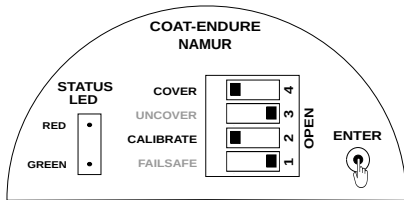

Figure 51: Setting Calibration
- Press and hold ENTER key, the STATUS LED will glow in RED color as shown in Figure 51.